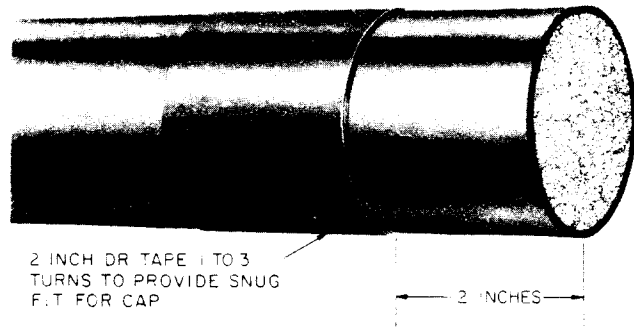

Fig. 3—Preparation of Cable for Cap Installation
- (1) If the cable sheath is scored, scuff it smooth with a carding brush; otherwise, no special cleaning is required.
- (2) To avoid wrinkling the cap under the clamp and to ensure a good seal, wrap 1 to 3 layers of 2-inch DR tape depending upon the amount of difference between the cable OD and the cap ID on the sheath as shown in Fig. 3.